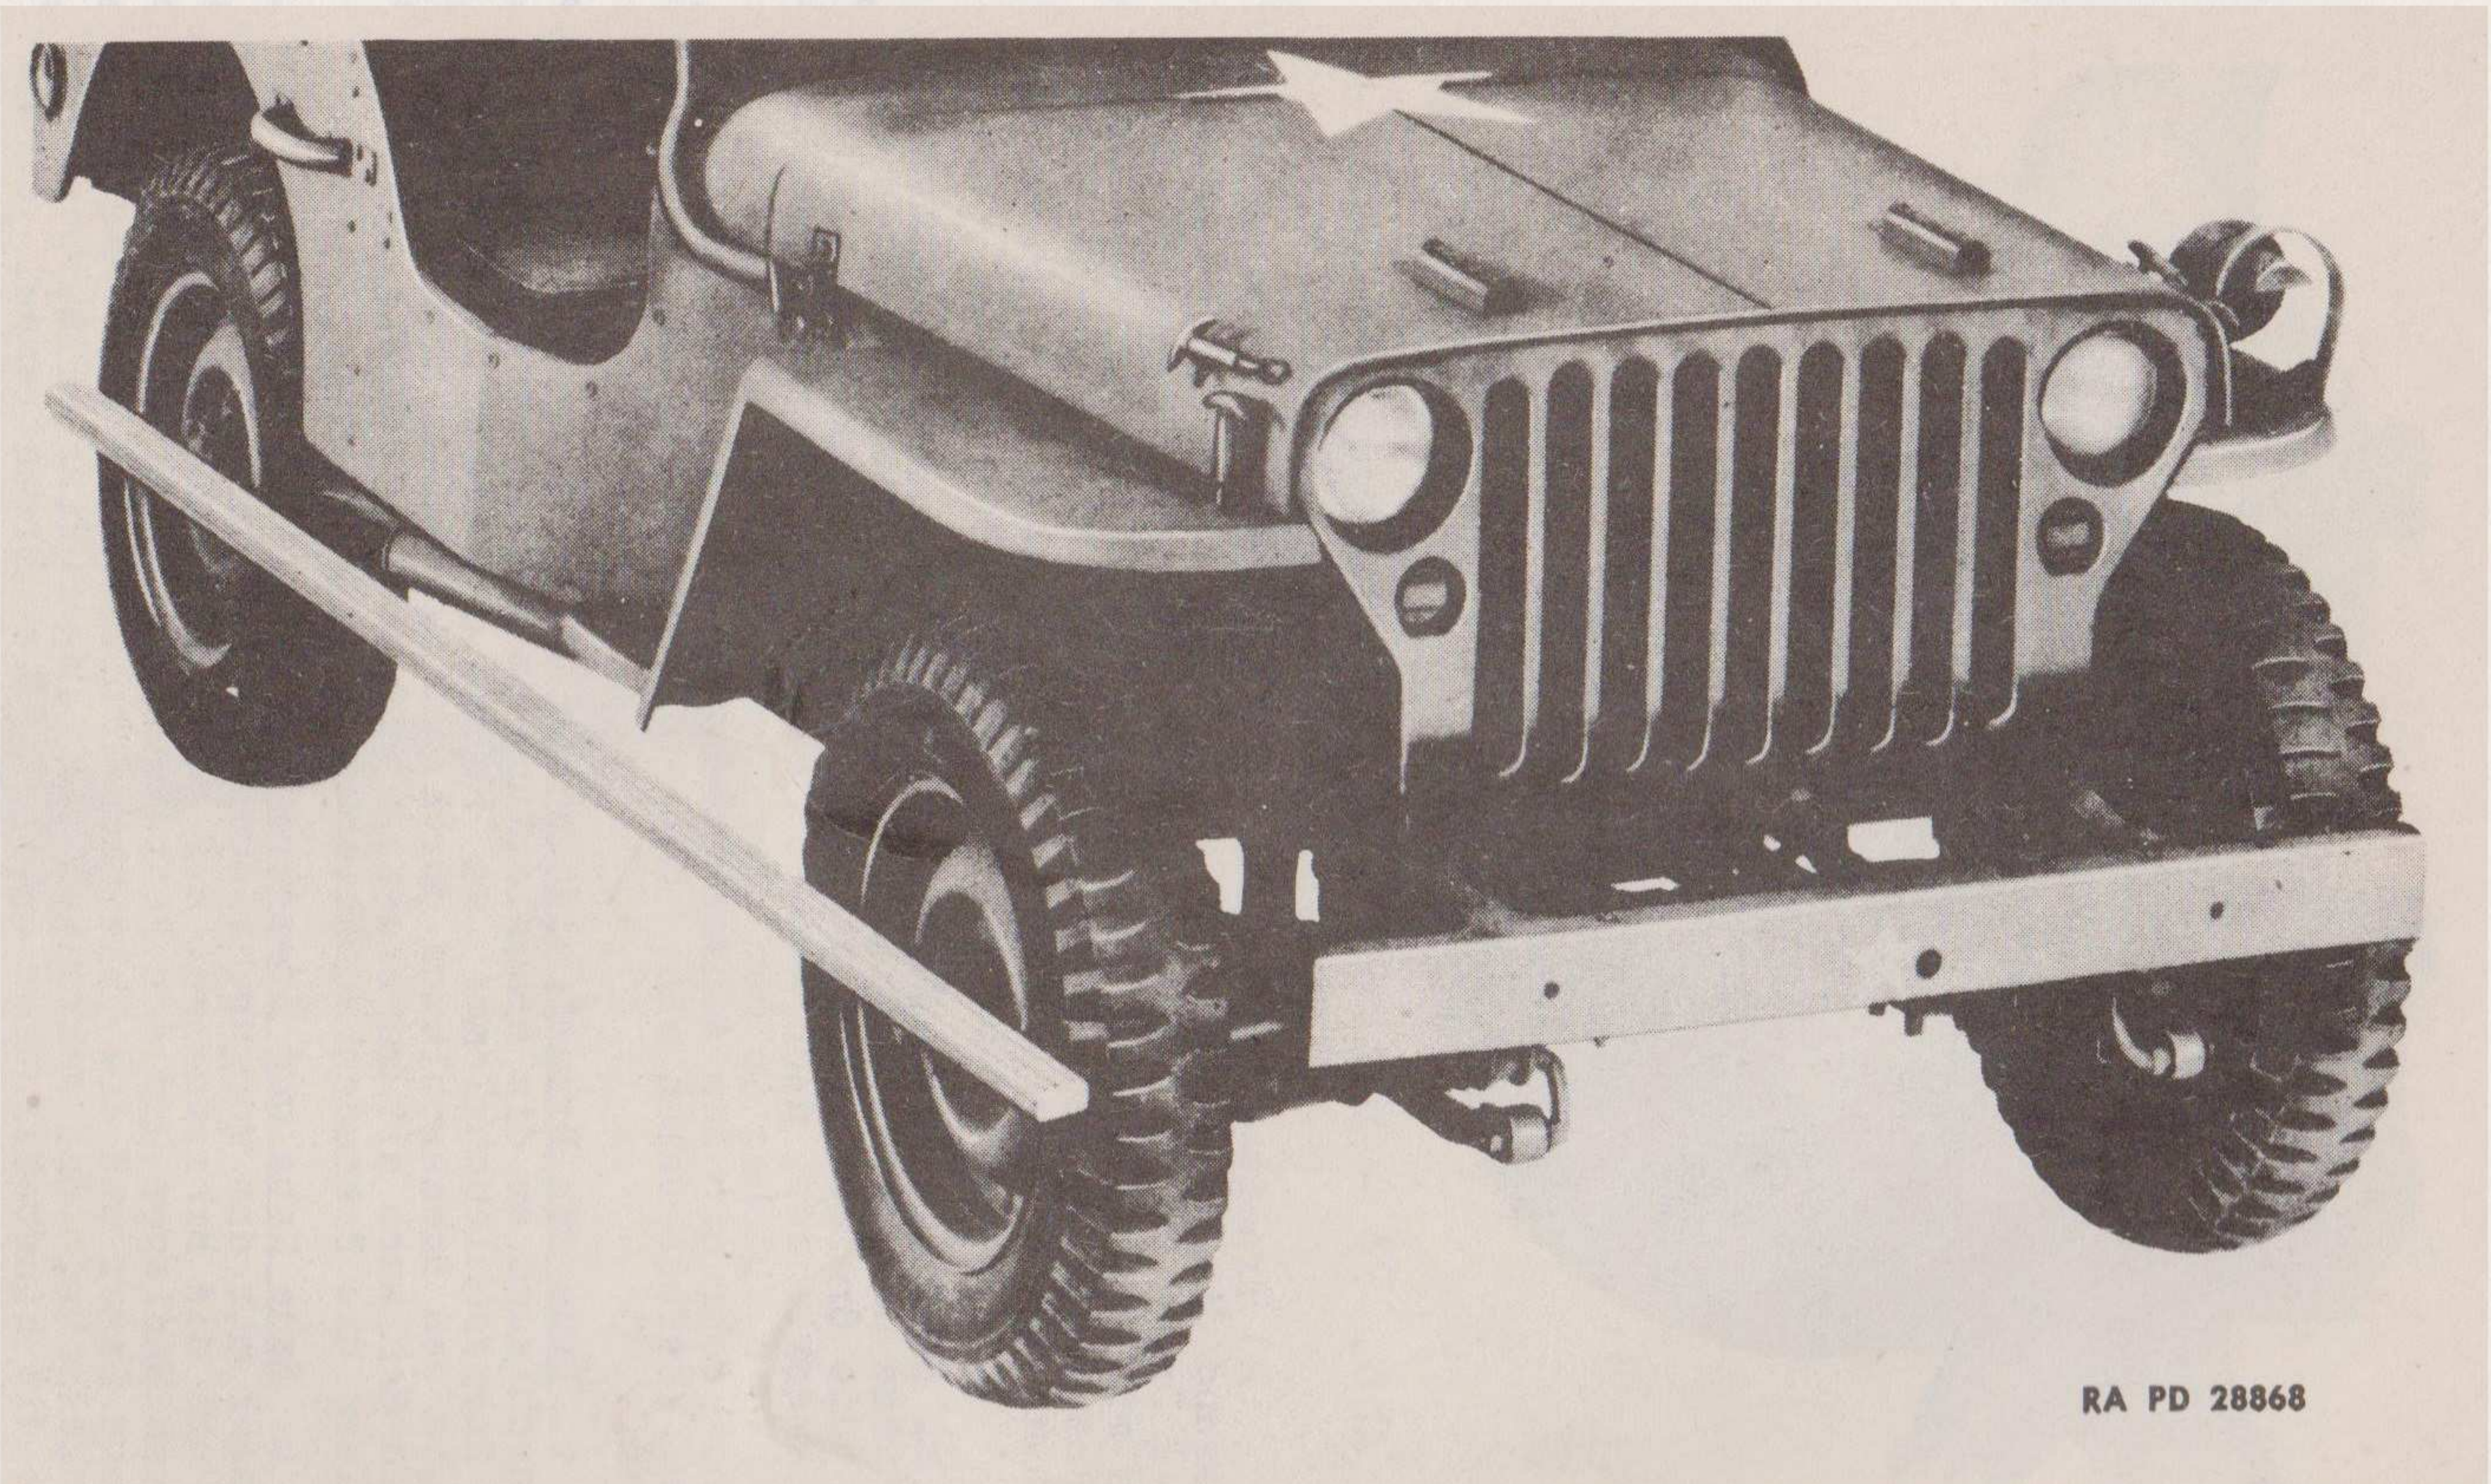

Figure 74 — Checking Wheels With Straightedge
(1) **EQUALIZE TIE RODS** (fig. 74). Set the pivot arm parallel to the axle and place a straightedge against the left rear and left front wheel. If the rear or front sides of the front tire do not touch the straightedge, the tie rods must be adjusted. Loosen the tie rod clamps at both ends of the left tie rod. Turn the tie rod tube clockwise to bring the forward side of the front wheel inward, or counterclockwise to bring the rear side of the front wheel inward. Adjust until the straightedge touches the side of the front tire at both front and rear. Repeat this procedure on the right-hand side of the vehicle.